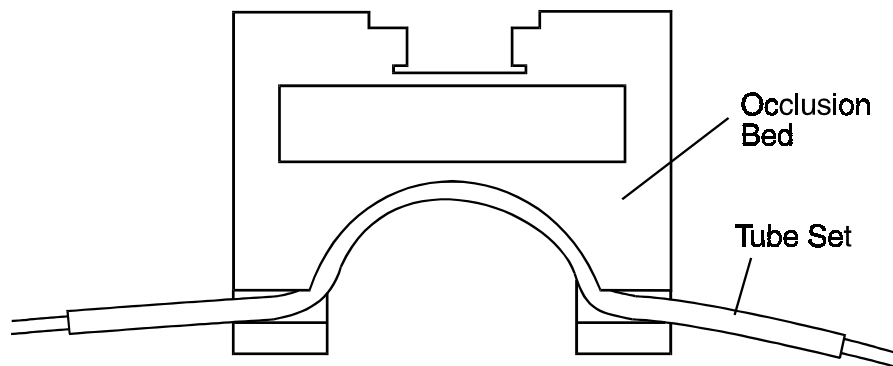

Figure 4. Positioning Tubing Assembly in Occlusion Bed
4. Install the pre-formed PTFE tubing assembly in the groove of the Occlusion Bed as shown in Figure 4.